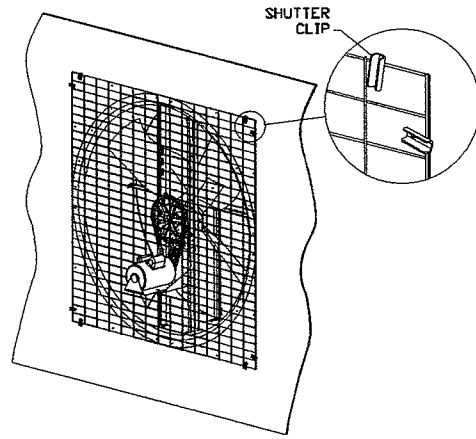

Figure 5
8. Mount the inlet guard to the wall using the shutter mounting clips as shown in Figure 5 by mounting the shutter clips in the corner holes of the corner fillers and rotating the clips over the guard wires.